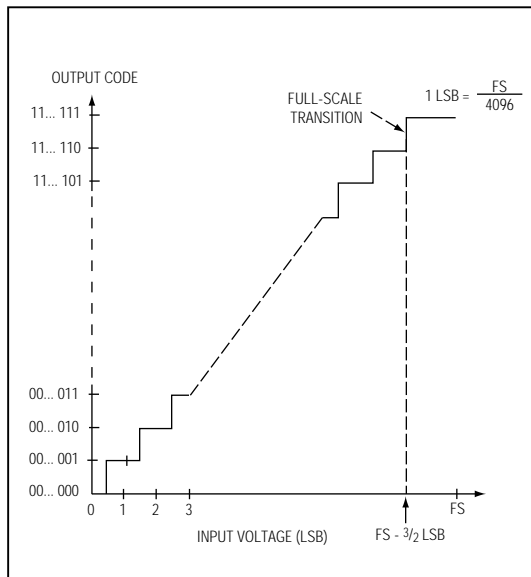

Figure 10. Unipolar Transfer Function
Output data coding for the MAX196/MAX198 is binary in unipolar mode with  $1\text{LSB} = (\text{FS} / 4096)$  and two-complement binary in bipolar mode with  $1\text{LSB} = [(2 \times |\text{FS}|) / 4096]$ . Code transitions occur halfway between successive-integer LSB values. Figures 10 and 11 show the input/output (I/O) transfer functions for unipolar and bipolar operations, respectively. For full-scale (FS) values, refer to Table 1.